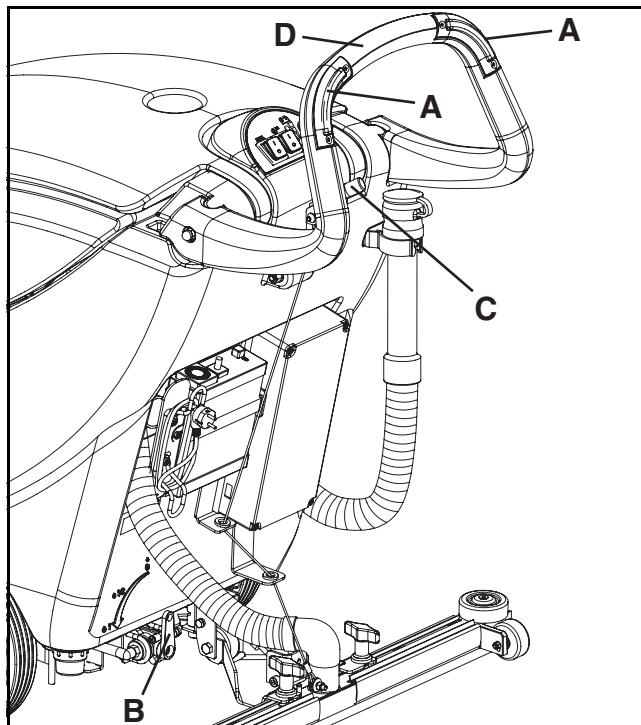

Figure 18
2. While keeping both hands on the handlebar (D, Fig. 18), move the machine and start scrubbing/drying the floor.
- When the machine is stopped, stop the brush/pad by releasing the switches (A, Fig. 18).
**Before lifting the brush/pad, stop its rotation by releasing the switches (A, Fig. 18).**
3. If necessary, adjust the solution flow sent to the brush/pad by turning the lever (B, Fig. 18).
2. Lift the squeegee by pushing the lever (C, Fig. 18) upwards.